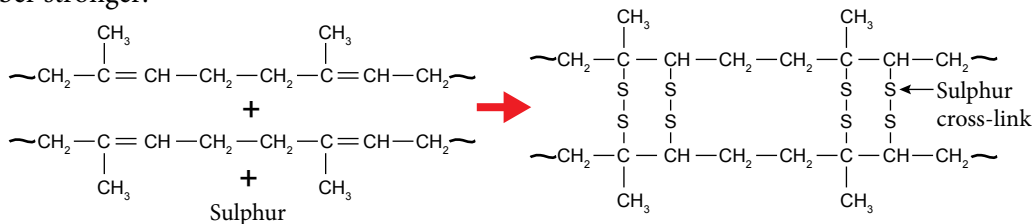

Figure 4.8 Vulcanisation of rubber to form sulphur cross-link.
- During a vulcanisation process, the double bond between carbons found in rubber molecules will react with sulphur or other substances to produce sulphur cross-links as shown in Figure 4.8.